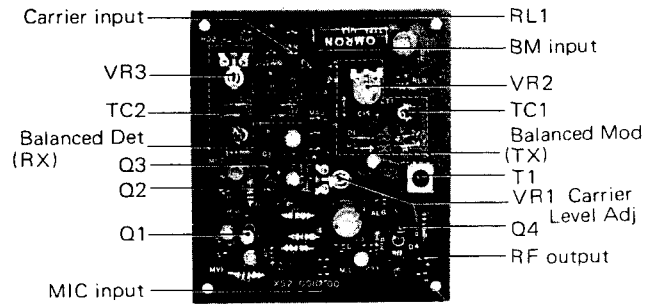

Fig. 12 X52-0010-00
5. BM and carrier position (Refer to Fig. 12, 13)